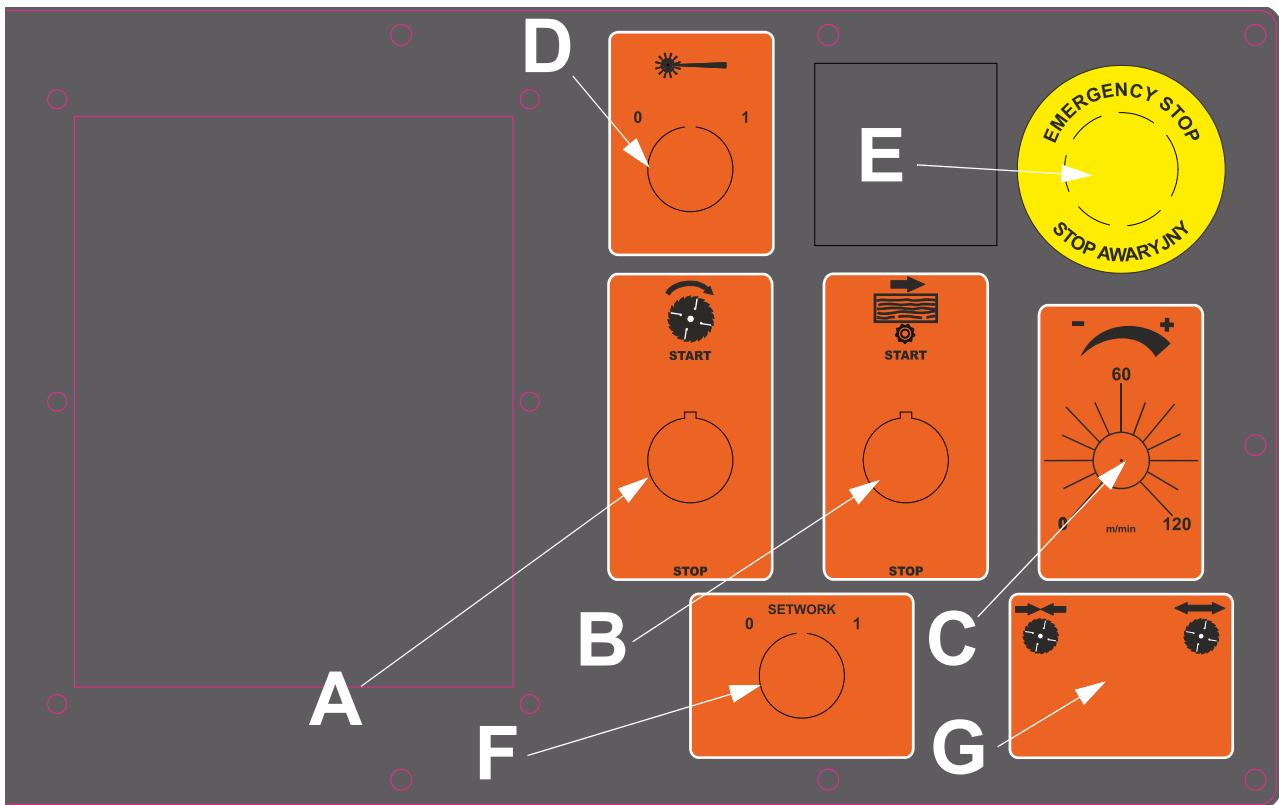

FIG. 5-12 SWITCHES ON THE CONTROL PANEL
See Figure 5-12 The control panel includes: blade motor start-stop switch (A), power feed switch (B), feed rate knob (C), Laser switch (D), emergency stop button (E), setwork switch (F), manual